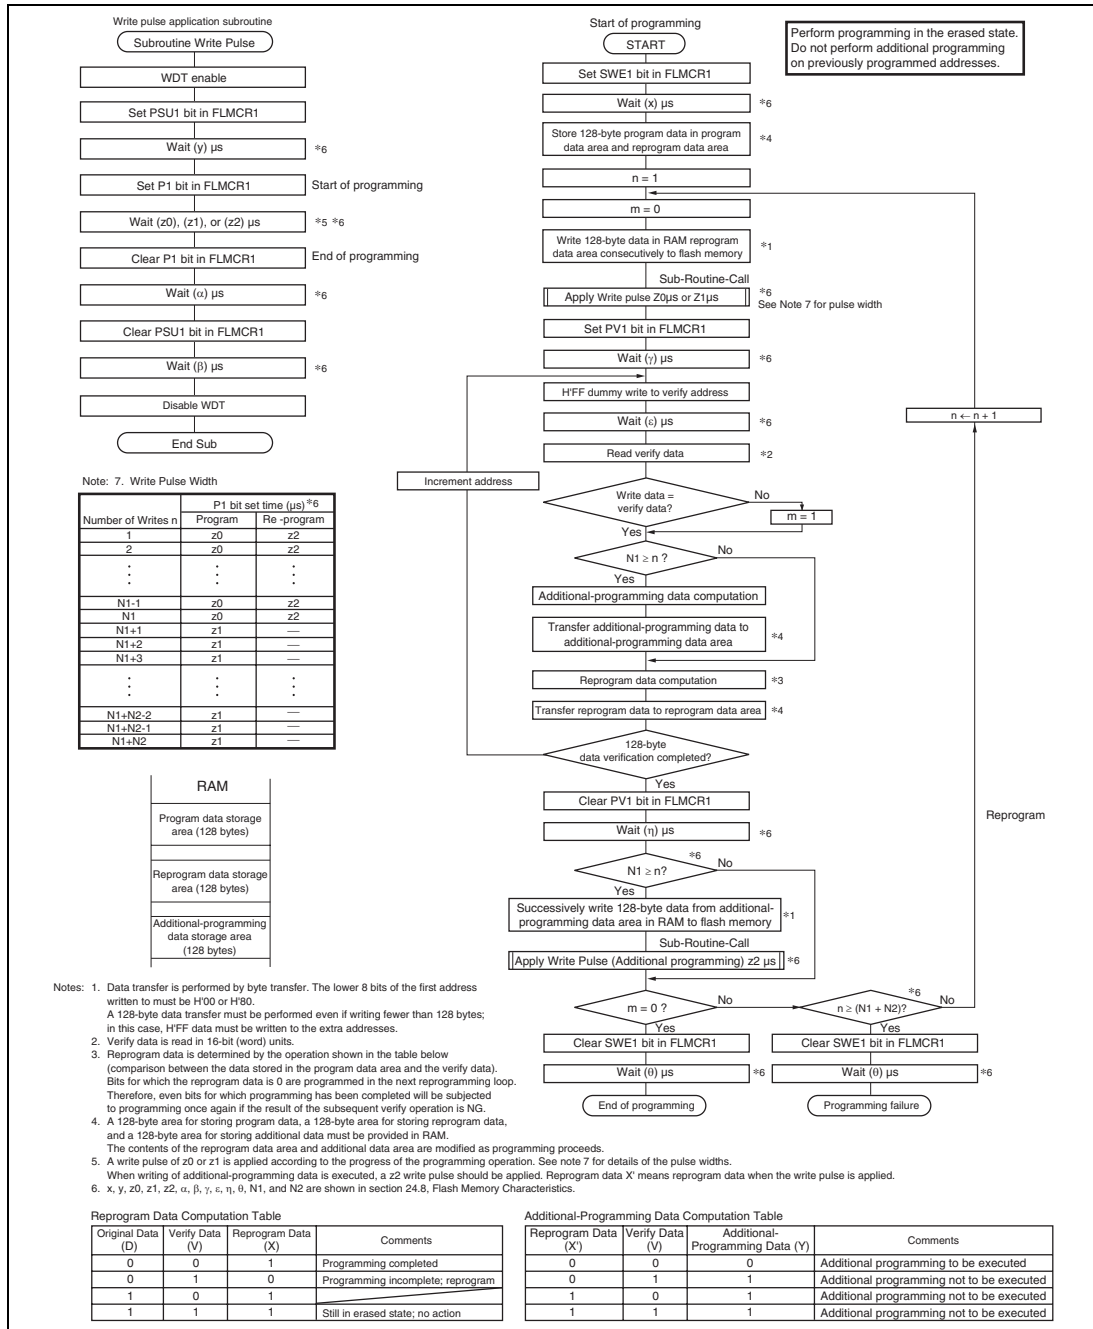

Figure 19.11 Program/Program-Verify Flowchart
When writing data or programs to the flash memory, the program/program-verify flowchart shown in figure 19.11 should be followed. Performing programming operations according to this flowchart will enable data or programs to be written to the flash memory without subjecting the chip to voltage stress or sacrificing program data reliability.
3. Prepare the following data storage areas in RAM: a 128-byte programming data area, a 128-byte reprogramming data area, and a 128-byte additional-programming data area. Perform reprogramming data computation and additional programming data computation according to figure 19.11.
5. The time during which the P1 bit is set to 1 is the programming time. Figure 19.11 shows the allowable programming times.